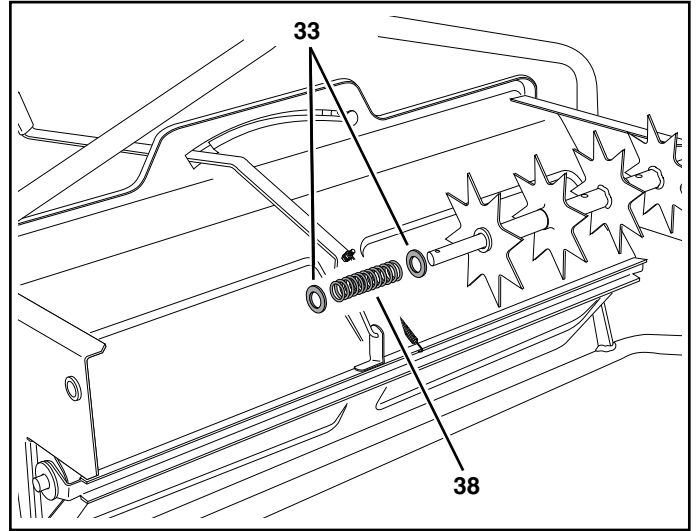

FIGURE 16
- Place a 5/8" flat washer (33), the compression spring (38) and another 5/8" flat washer onto the shaft. See figure 16.